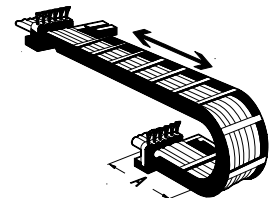

Fig. 2
9. With long energy chains, in which the upper run lies on the lower run; fasten the cables only at the driver end (→ Fig. 2).